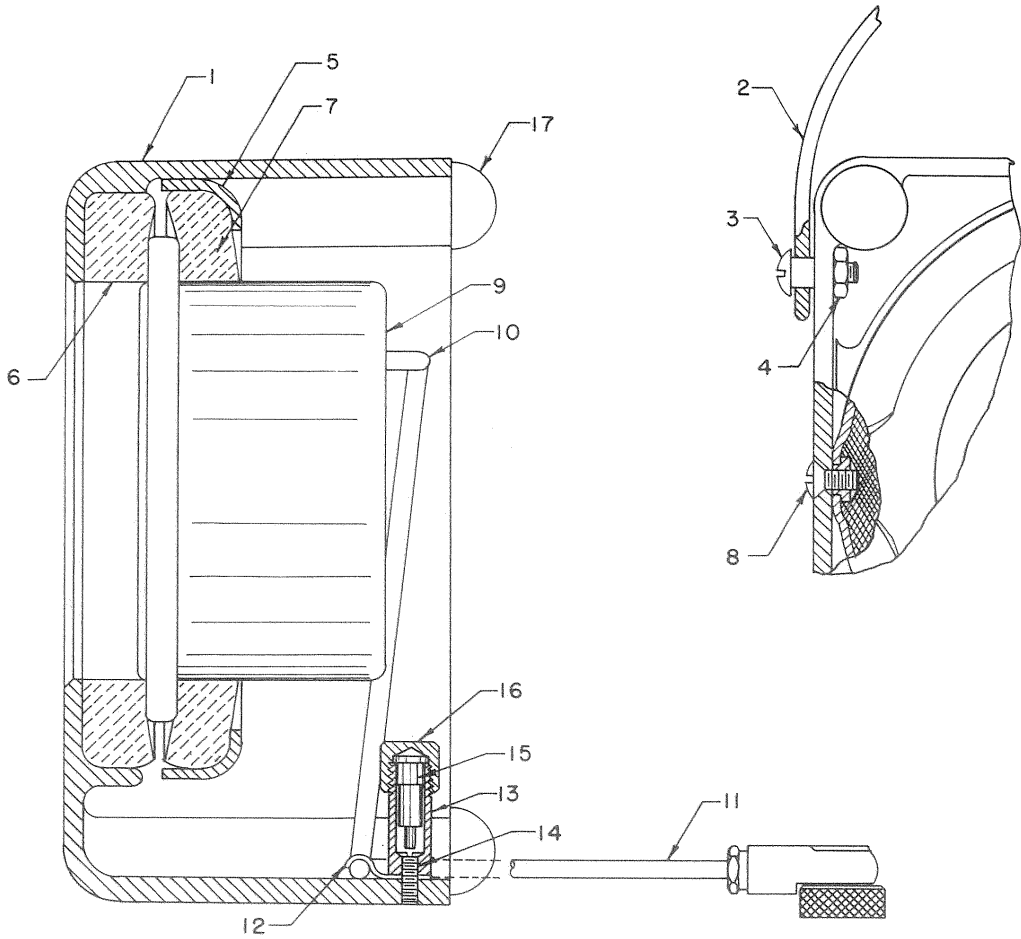

Figure 9-2. Meter Assembly, RF Wattmeter
| -19 | 82492-12 | METER ASSEMBLY (see figure 9-2). | | | | | | | 1 |
| 9-3 | 81821-1 | . | . | . | | | | | CABLE ASSEMBLY (See item 11, figure 9-2 for next higher assembly) | Ref |